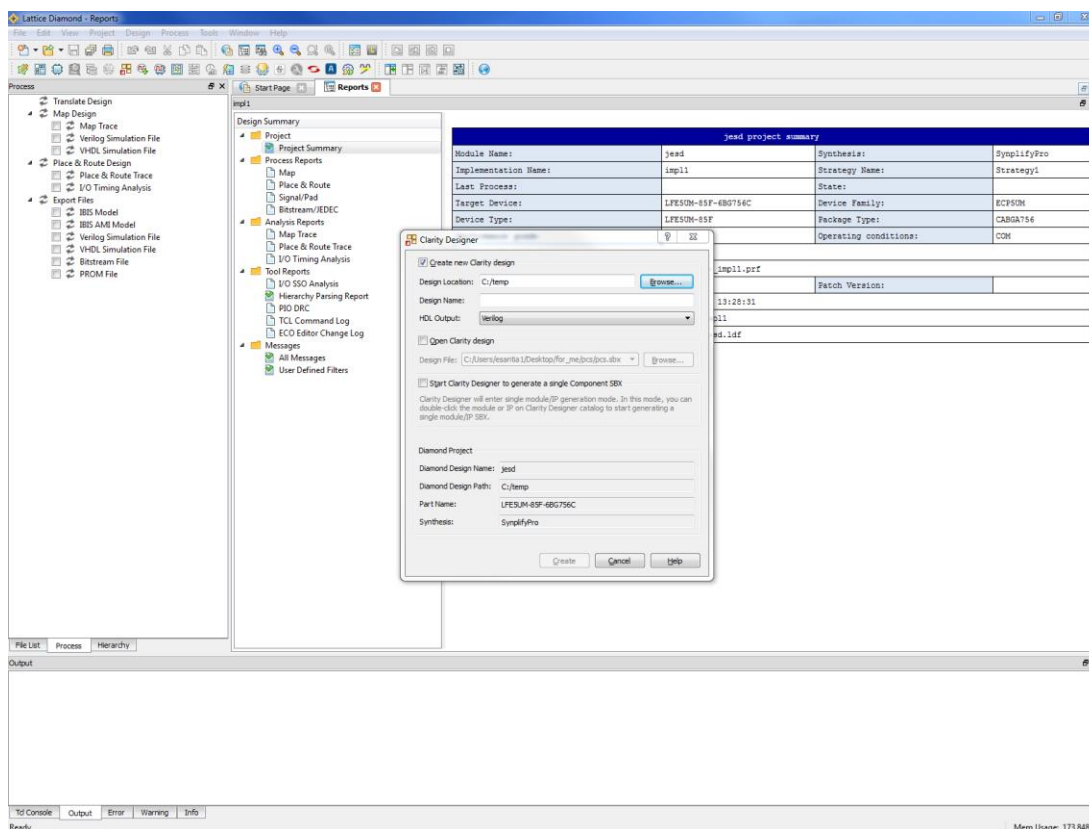

**Figure 4.2. Starting Clarity Designer from Diamond Design Environment**
3. Select and/or fill out the following items as shown in Figure 4.2:
The IPexpress can be started from the Lattice Diamond accessories in start menu of Windows. It can be started from the command line in Linux. The initial window of IP Express is shown in Figure 4.2. To generate a specific IP core configuration, specify: